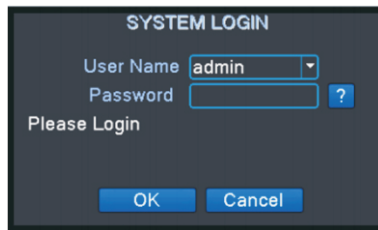

Figure 8. NVR System Login
16. Login to NVR admin account. See Figure 8.